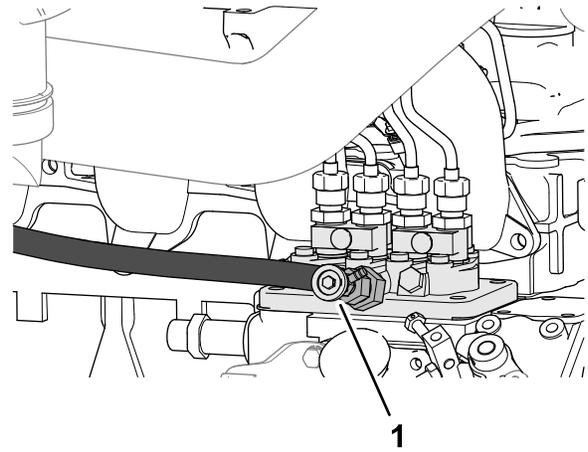

Figure 80
4. Open the air-bleed screw on the fuel-injection pump (Figure 80).